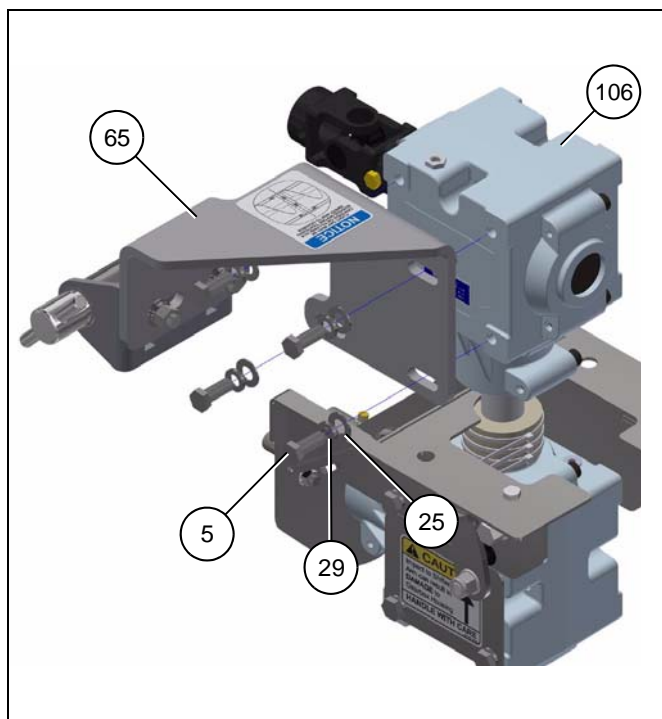

Figure 4O
4. Install the sweep gearbox arm (65) on the gearbox assembly (106) using the hardware (5, 25 and 29) removed in the previous step. \(See Figure 4O.\)